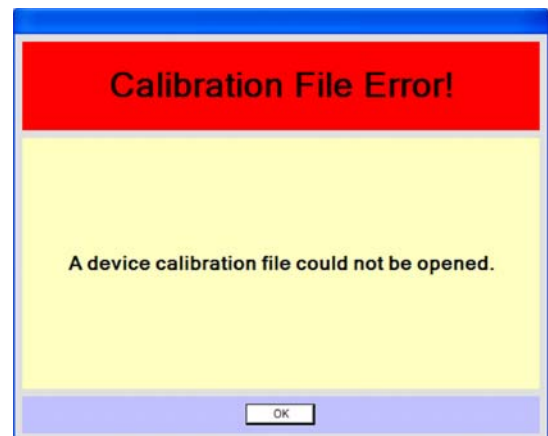

Figure 7.
2. When a **Calibration File Error!** message appears as shown in Figure 7, click **OK**.